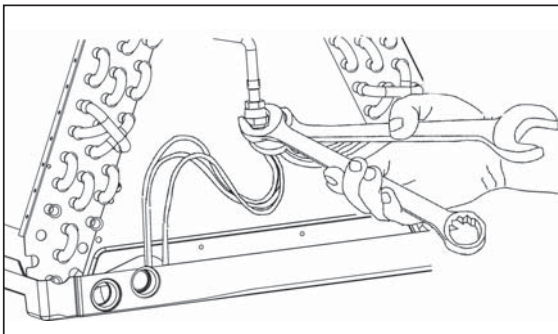

Figure 3. Wrenches on Distributor Body and Assembly Nut
2. Loosen the orifice body halves by applying two wrenches and squeezing them together as shown in **Figure 3**, to turn the assembly nut counter-clock-wise.